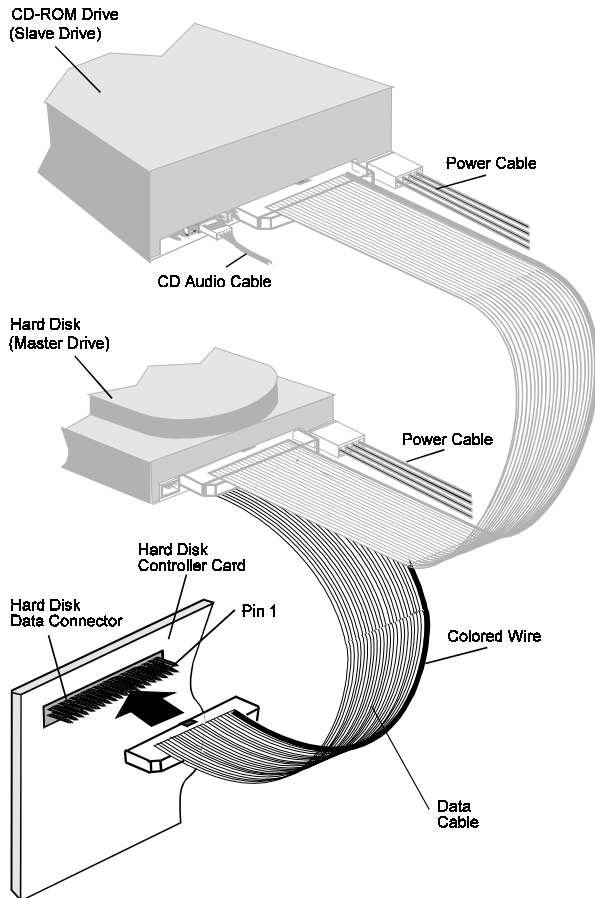

Figure 2-21: Connecting data cable to the hard disk controller card.
3. Connect the data cable to your hard disk controller card as shown in Figure 2-21. Make sure you align the colored wire on the cable to Pin 1 of your Hard Disk Data Connector.
Your hard disk controller card may differ from the one shown in Figure 2-21.